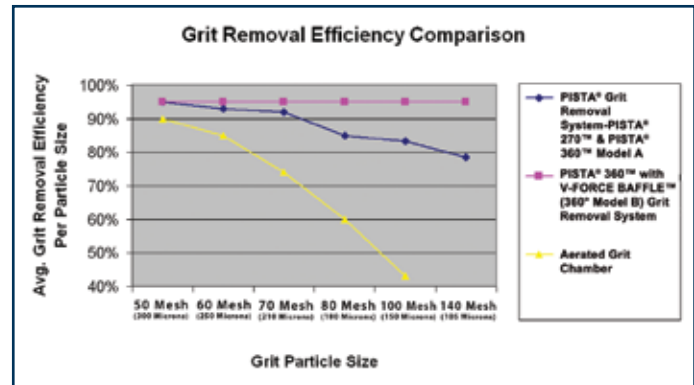

Fig. 1 – Grit Removal Efficiency Comparison
Figure 1 compares the grit removal efficiency versus grit particle size for the three (3) grit removal systems. The PISTA® 270™, PISTA® 360™ Model A and PISTA® 360™ with V-FORCE BAFFLE™ Grit Chambers all have a higher grit removal efficiency over the full range of grit particle sizes than the aerated grit chamber.